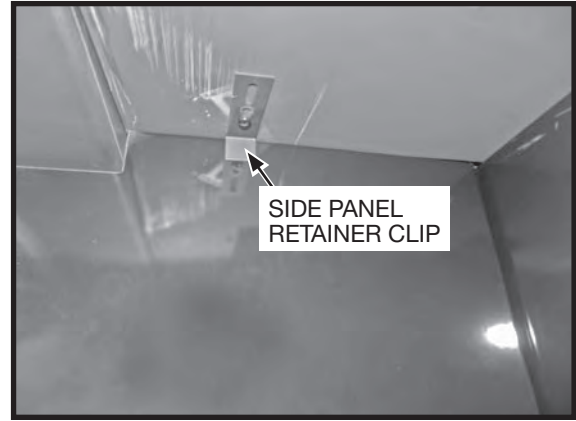

Figure 56: Retainer clip holding up the right side panel.
1. Remove the side panel retainers located on the underside of the firebox heat shield. The retainers are each held in place by one screw (Figure 56).
5. Reinstall side retainers (Figure 56).